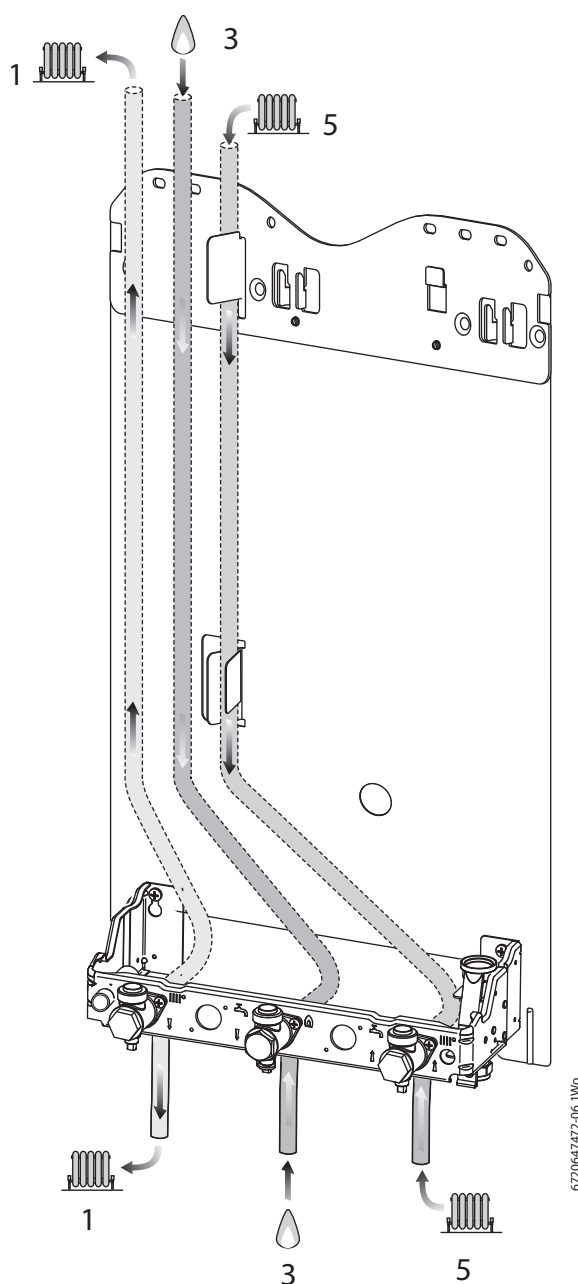

Fig. 18 Without optional diverter valve
- ▶ **If no diverter valve is fitted** install the pipe work as shown in figure 18.